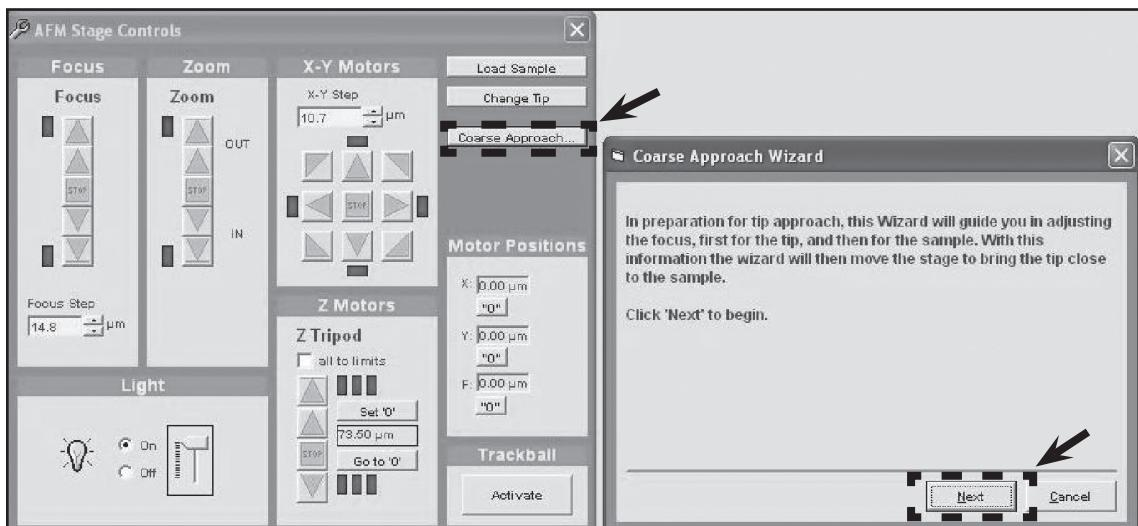

Figure 2.29: Course Approach Start Dialog Box
1. Click Coarse Approach on Stage Control Window (see Figure 2.29).